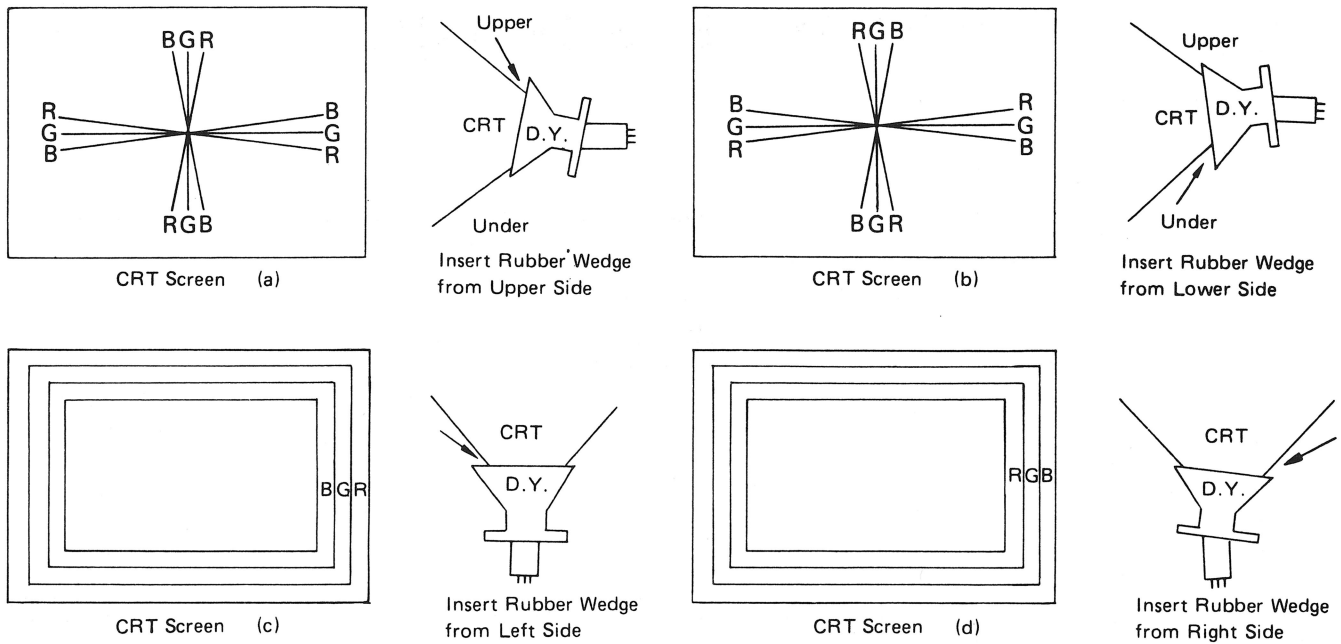

Fig. 15
- Insert the temporary wedge and fix the deflection yoke so as to obtain the best circumference convergence. (See Fig. 15)
- Tilting the angle of the yoke up and down adjusts the crossover of both vertical and horizontal red and blue lines. See Figs. 15(a) and 15(b).
- Tilting the angle of the yoke sideways adjusts the parallel convergence of both horizontal and vertical lines at the edges of the screen. See Figs. 15(c) and 15(d).